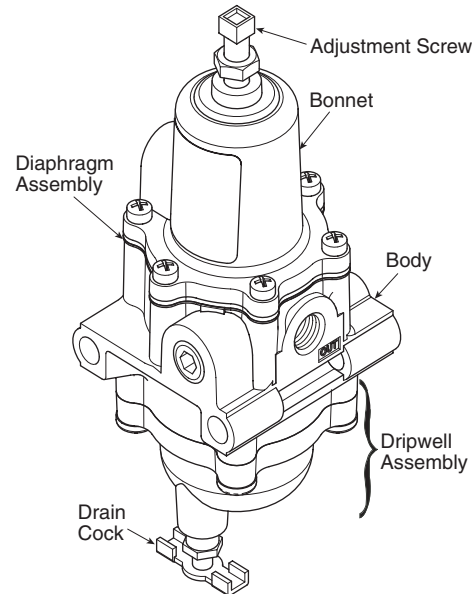

Figure 2
1. To increase pressure, turn the Adjustment Screw clockwise. To decrease pressure, turn the Adjustment Screw counterclockwise. For more information, see Figure 2.
2. To remove entrained liquids from the Dripwell, open the Drain Cock on the bottom of the Dripwell Assembly. The flow through the regulator and the amount of entrained oil or water in the air determine how often you should empty the Dripwell. For more information, see Figure 2.